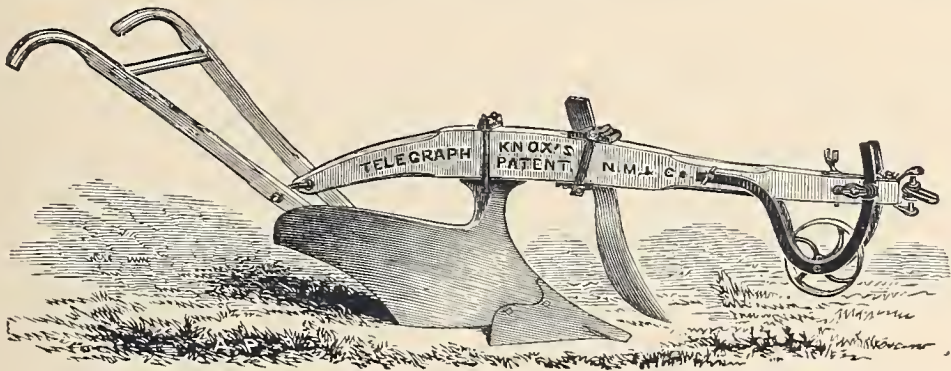

Fig. 265. — Eagle Deep-Tilling Telegraph Plow.
*Knox Improved Eagle Telegraph Plow*, represented by *Fig. 265*, is an improvement in Greensward Plows for turning flat furrow-slices. The form of the mould-board is changed in a manner to give it a decided advantage in laying the